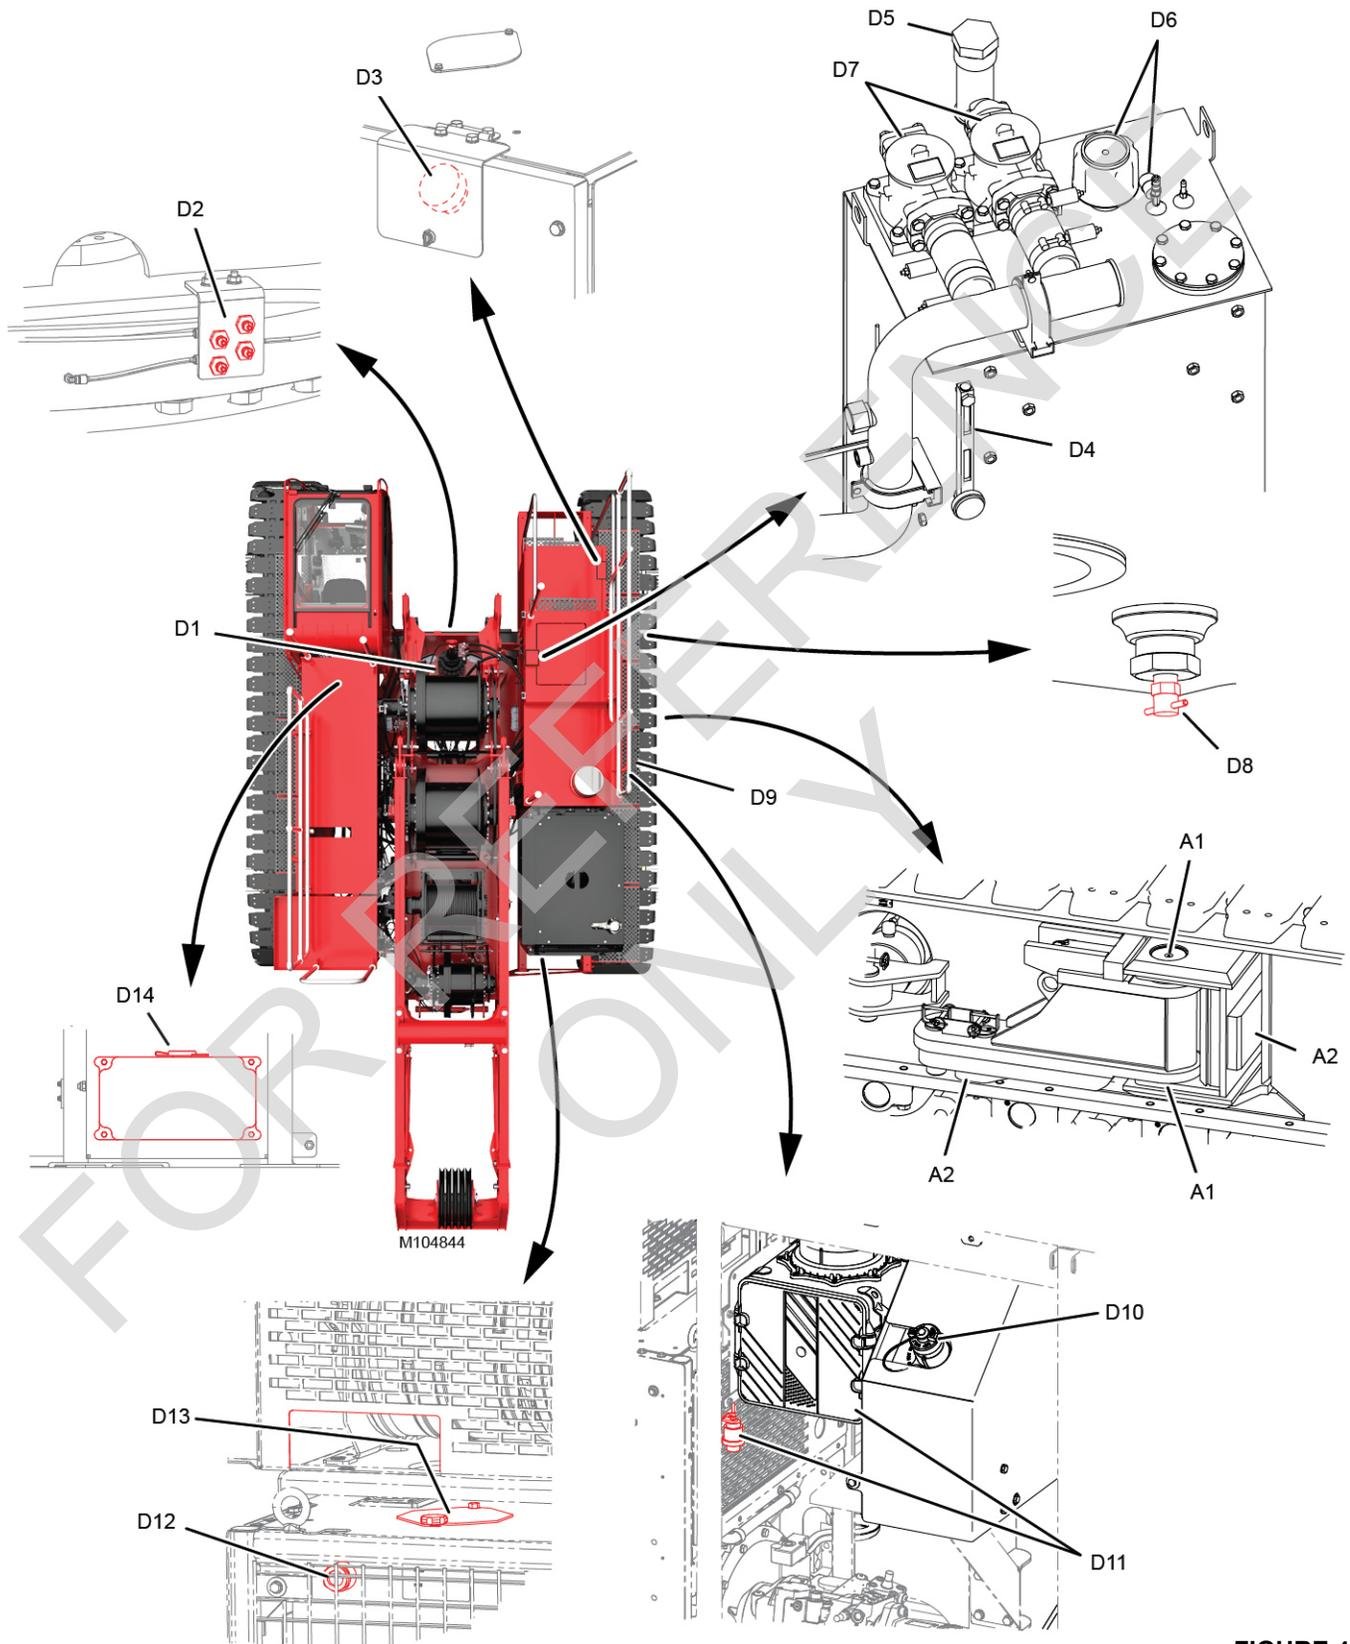

FIGURE 4
- See Figure 4, page 8 through Figure 8, page 14 for the location of the lubrication points in the upperworks and lowerworks.